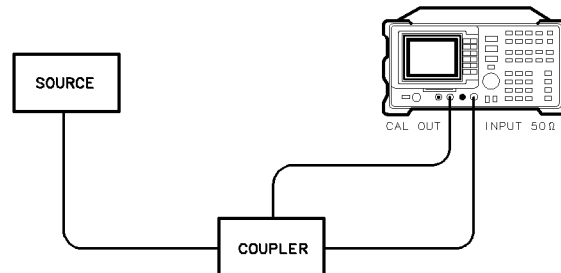

Figure 6-1. Set-Up for Obtaining Two Signals
1. To obtain two signals with a 100 kHz separation, connect the calibration signal and a signal source to the spectrum analyzer input as shown in Figure 6-1. (If available, two sources can be used.)